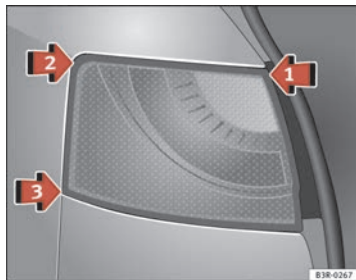
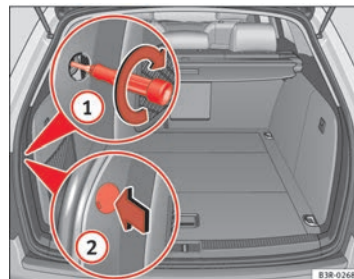

Fig. 230 Fitting the tail light unit
Fig. 231 Luggage compartment: Location of the bolt securing the tail light unit
- First place the tail light unit in ⇒ fig. 230 arrow ① in the housing.
- Gently press the tail light unit against the housing, first in position ② and then in position ③, until that the clips engage firmly in the rubber mountings.
- Apply gentle pressure to the front side of the tail light unit and secure using the screwdriver, from the luggage compartment ⇒ fig. 231 ①.
- Fit the cover back onto the screw, with the notch pointing to the rear ②.